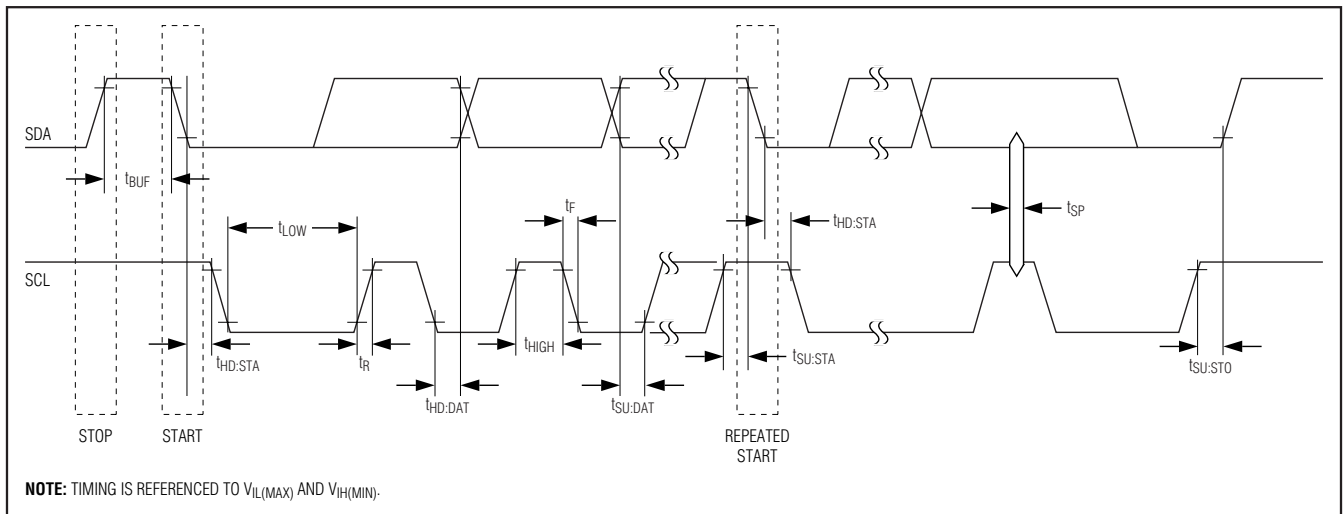

Figure 3. I2C Timing Diagram
**START Condition:** A START condition is generated by the master to initiate a new data transfer with a slave. Transitioning SDA from high to low while SCL remains high generates a START condition. See Figure 3 for applicable timing.
**STOP Condition:** A STOP condition is generated by the master to end a data transfer with a slave. Transitioning SDA from low to high while SCL remains high generates a STOP condition. See Figure 3 for applicable timing.
**Repeated START Condition:** The master can use a repeated START condition at the end of one data transfer to indicate that it will immediately initiate a new data transfer following the current one. Repeated STARTs are commonly used during read operations to identify a specific memory address to begin a data transfer. A repeated START condition is issued identically to a normal START condition. See Figure 3 for applicable timing.
**Bit Write:** Transitions of SDA must occur during the low state of SCL. The data on SDA must remain valid and unchanged during the entire high pulse of SCL, plus the setup and hold time requirements (Figure 3). Data is shifted into the device during the rising edge of the SCL.
**Bit Read:** At the end of a write operation, the master must release the SDA bus line for the proper amount of setup time (Figure 3) before the next rising edge of SCL during a bit read. The device shifts out each bit of data on SDA at the falling edge of the previous SCL pulse and the data bit is valid at the rising edge of the current SCL pulse. Remember that the master generates all SCL clock pulses, including when it is reading bits from the slave.